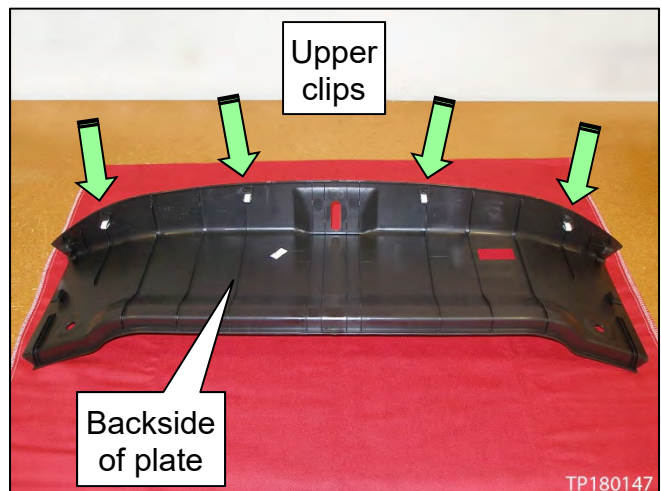

Figure 26
- See clip locations in Figure 26.